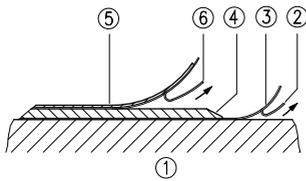

Fig. 1: Mounting of the magnetic strip
**Mounting steps** (see fig. 1)
- Clean mounting surface (1) carefully.
- Remove protective foil (2) from the adhesive side of the magnetic strip (3).
- Stick down the magnetic strip (4). Active surface upwards (see marking on the strip).
- Remove protective foil (6) from adhesive tape on the cover strip (5).